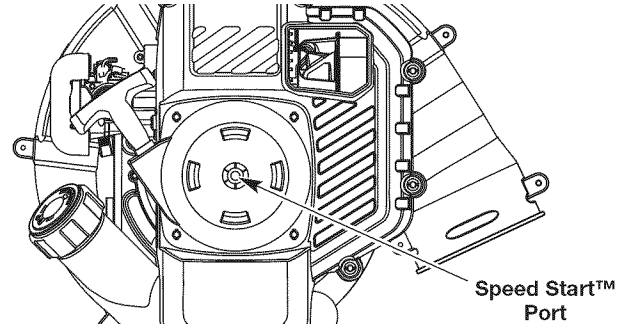

Fig. 10
7. **DO NOT** squeeze the throttle control. Insert the Speed Start™ accessory into the Speed Start™ port (Fig. 10). Refer to the *Operation* section of the Speed Start™ accessory operator's manual.